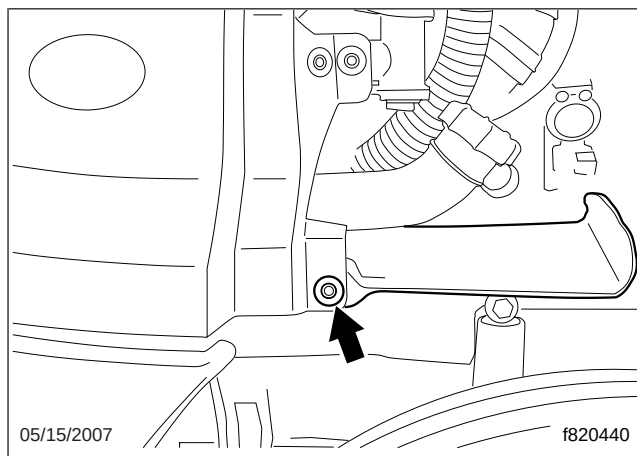

Fig. 1, Cowl Side Panel Torx Screw and Washer
- 2.1 Remove the Torx® screw and washer that attach the cowl side panel to the splash shield; see Fig. 1.